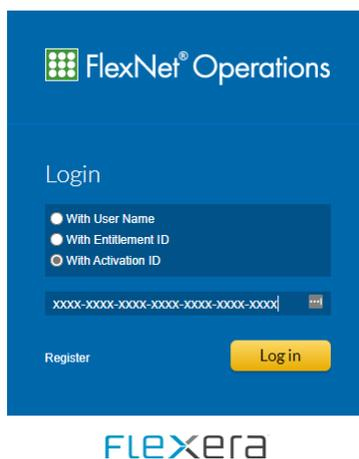

Figure 18. FNO login dialog from the website.
10. Copy and paste the *FNO* Login screen address from the text file to display the Login dialog (Figure 18).